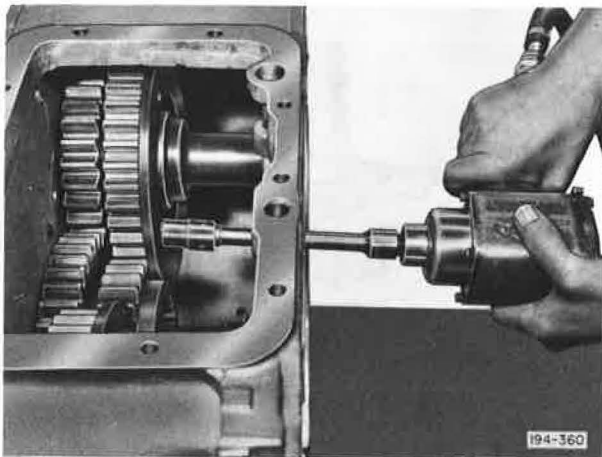

Figure 5-137. Removing Compound Countershaft Gear Retaining Thrust Washer Capscrews
5. Remove compound countershaft gear retaining thrust washer capscrews. See Figure 5-137.